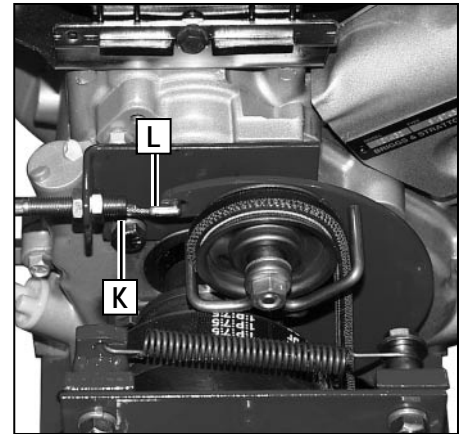

Figure 5-12: Measure length of cable.
2. Have an assistant pull the Reverse Clutch Control knob all the way out and hold it in that position. Measure the length of the cable wire between the end of the threaded cable adjuster (K, Figure 5-12) and the end of the Z-fitting (L) to which the cable wire is attached.